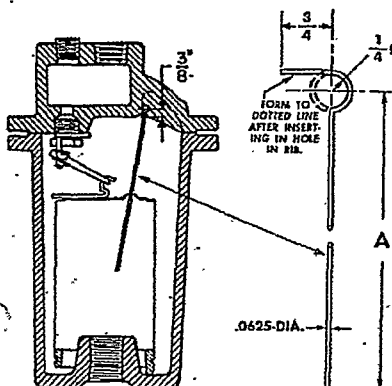

Fig. 44-1. Vent scrubbing wire for use when oil plugs vent. Trap inlet tube must be removed.
**Vent Scrubber.** If the bucket vent should be closed by an oil film, either enlarge the vent or install a scrubbing wire. For vent enlargement, first try a No. 46 drill. If this is not enough, then use a No. 42 drill. Make scrubbing wire as shown in Fig. 44-1 to the length shown in Table A-44. The hole in the center rib of the trap should be  $\frac{3}{32}$ " . Enlarge vent with No. 37 drill.